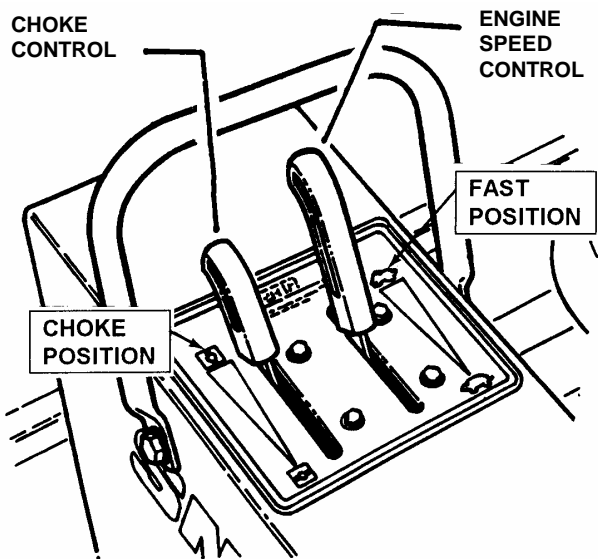

FIGURE 3.4
4. Move choke control forward to choke position to start a cold engine. See Figure 3.4.
5. Move engine speed control to the Rabbit "FAST" position. See Figure 3.4.
1. Start engine and set engine speed control to the Rabbit "FAST" position. See Figure 3.4.